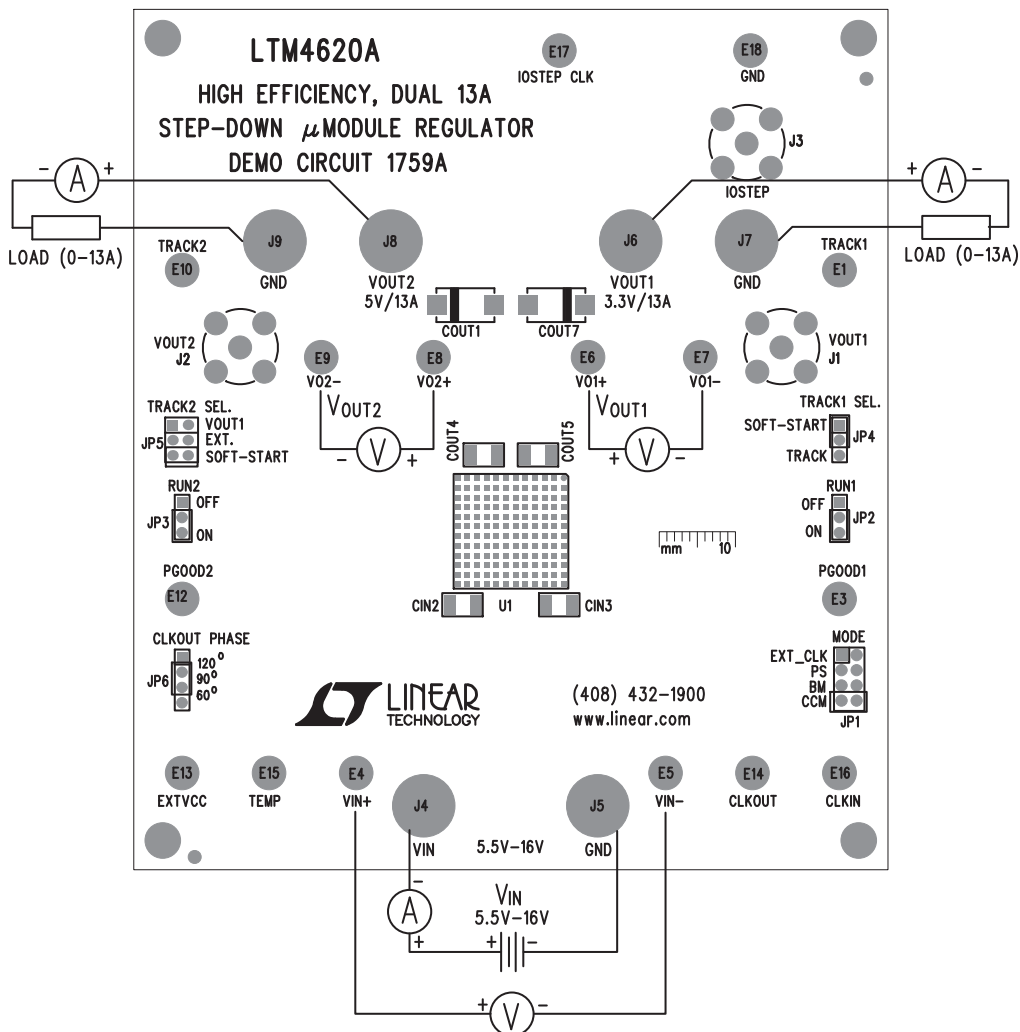

Figure 2. Test Setup of DC1759A
Demonstration circuit 1759A is easy to set up to evaluate the performance of the LTM4620AEV. Please refer to Figure 2 for proper measurement setup and follow the procedure below:
- With power off, connect the input power supply, load and meters as shown in Figure 2. Preset the load to 0A and V_{IN} supply to 12V.